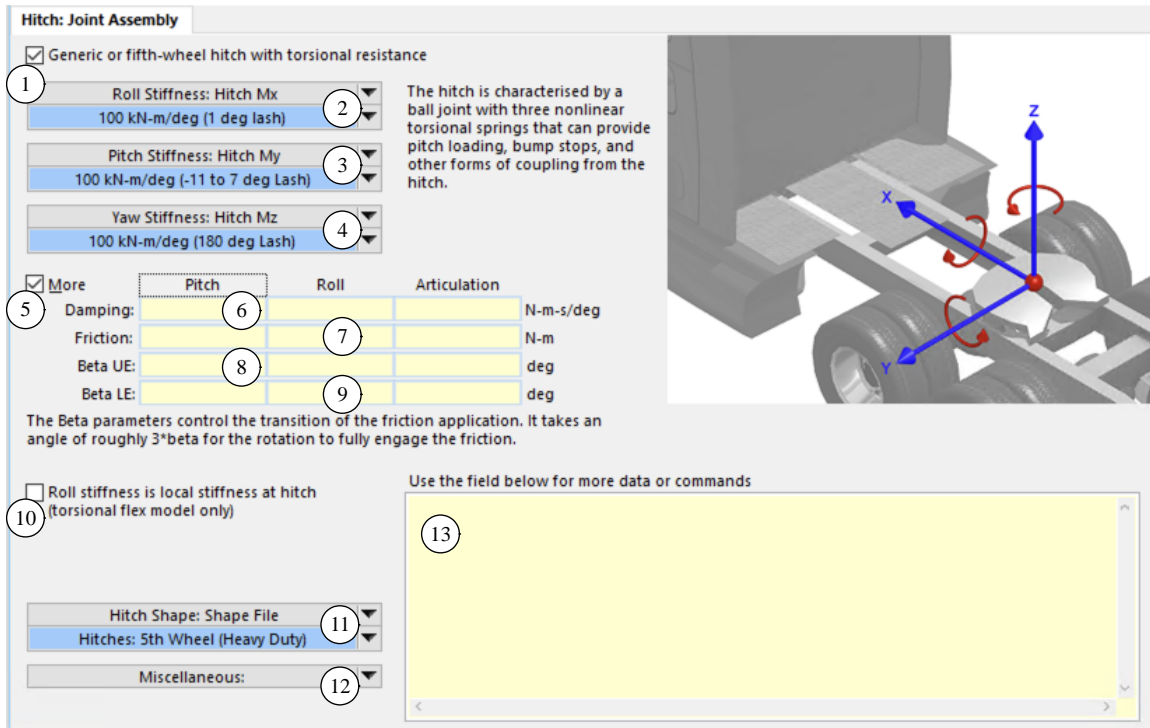
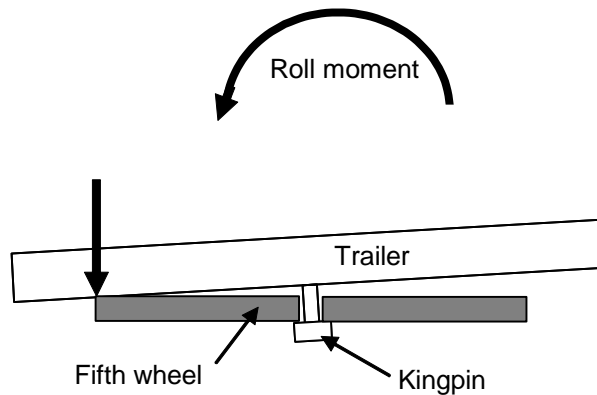
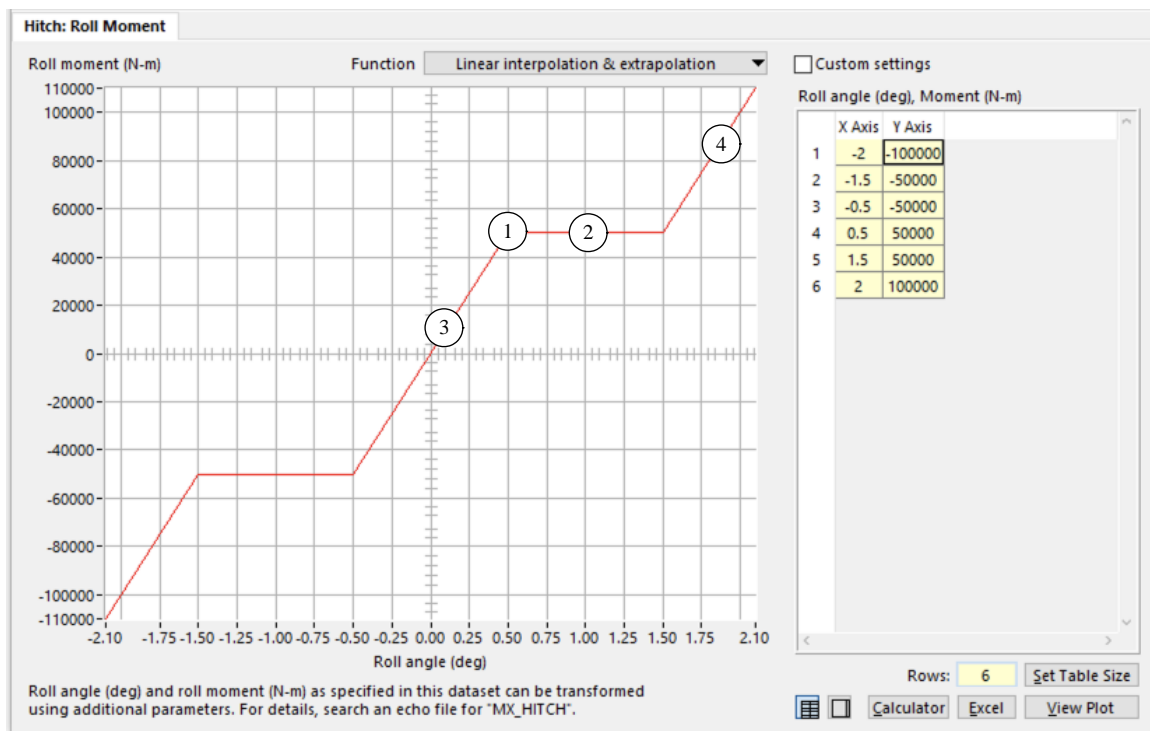
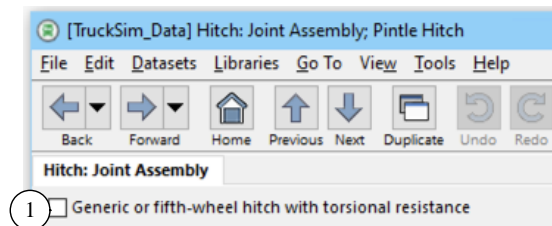

Figure 16. The Hitch Joint Assembly screen.
Figure 21. Tipping through lash.
Figure 22: A typical Roll Stiffness dataset for a fifth wheel.
Figure 23. Hitch screen with Generic/fifth-wheel button unchecked for pintle hitch.
2. The hitch roll deflection is modified to account for the local roll angle introduced by twist of the chassis (leading and trailing) at the location of the hitch. This option is enabled with a checkbox on the Hitch screens, as shown in Figure 16 (page 13) and Figure 17 (page 15).
Use this screen (Figure 16) to specify non-linear relationships between the resisting moments and angles of rotation directly using tables (e.g., Figure 22, page 17).
- ② Link to a Configurable Function dataset that defines a relationship between hitch roll moment and roll angle, such as the example shown later in Figure 22 (page 17). The root name for this function is `MX_HITCH`.
- ③ Link to a Configurable Function dataset that defines a relationship between hitch pitch moment and pitch angle. The root name for this function is `MY_HITCH`.
- ④ Link to a Configurable Function dataset that defines a relationship between hitch articulation moment and articulation angle. The root name for this function is `MZ_HITCH`.
- ⑤ **More** checkbox. Check to view more parameters: ⑥ - ⑨. This option is available only when the first checkbox ① is checked.
- ⑥ Torsional damping coefficients for each rotation axis (keywords = HITCH_DMP_X, HITCH_DMP_Y, HITCH_DMP_Z).
- ⑦ Torsional friction about each rotation axis (keywords = HITCH_FRIC_X, HITCH_FRIC_Y, HITCH_FRIC_Z).
- ⑧ Beta parameters for approaching the upper friction limits when the friction torque goes from negative to positive (keywords = BETA_UE_X, BETA_UE_Y, and BETA_UE_Z). These are approximately 1/3 the angle needed to travel through a torsional spring hysteresis (friction) loop when the rotation angle is increasing.
- ⑨ Beta parameters for approaching the lower friction limits when the friction torque goes from positive to negative (keywords = BETA_LE_X, BETA_LE_Y, and BETA_LE_Z). These are approximately 1/3 the angle needed to travel through a torsional spring hysteresis (friction) loop when the rotation angle is decreasing.
- ⑩ Checkbox to enable the alternate use of relative roll for use with models that have frame twist, as described earlier (page 8, Keyword = OPT_ROLL_HITCH). This option is used under the following conditions: (1) the first checkbox ① is checked, and (2) it applies for simulations with the frame twist feature enabled on the License Settings window (**Tools > License Settings**). The frame twist feature is available as an extra license option in CarSim and TruckSim).
As an alternative to describing the hitch's roll, pitch, and yaw stiffnesses directly via tables in the GUI, the hitch may instead be described with parameters used to automatically build the nonlinear tables for the three moments. The **Hitch: Parameters** screen (Figure 17) has all the controls shown on the **Hitch: Joint Assembly** screen, except for the three links to the hitch moment Configurable Functions (Figure 16, ②, ③, ④). These are replaced with parameters (⑭ - ⑰) used to build the tables automatically. For example, Figure 18 shows the three hitch moment tables written for the dataset shown in Figure 17.
When the roll moment generated by the lateral acceleration becomes large enough to shift the trailer's vertical load to the edge of the fifth wheel, the trailer can tip and contact the edge of the fifth-wheel's mating surface (Figure 21). Under these conditions the trailer is free to move through the lash in the fifth-wheel coupling, equivalent to about 1 or 2 degrees. This behavior can be captured in CarSim and TruckSim using the Configurable Function for **Hitch: Roll Moment** (Keyword = MX_HITCH, Figure 22).
1. The hitch towing the trailer (either the **Hitch: Joint Assembly** screen or the **Hitch: Parameters** screen has a checkbox **Generic or fifth-wheel hitch with torsional resistance** (1) (Figure 16, page 13, or Figure 17, page 15). This box must be *unchecked* (1) (Figure 23).
Note	When the hinged tow bar option ① is set, the dataset for this screen will apply the command <code>OPT_HITCH_TYPE = 3</code> . An error is generated by the VS Math Model if the hitch type was already set to 1 (the box in Figure 23 was checked). To use the hinged tow bar option on the sprung mass screen, the hitch type must be set to either 2 (in which case the value will be changed to 3) or 3 (in which case the intended setting has already been made).
Note	When the articulation system option is set (1), the dataset for this screen will apply the command <code>OPT_HITCH_TYPE = 4</code> . An error is generated by the VS Math Model if the hitch type was set to 1 (the checkbox in Figure 23 is unchecked). To use the articulation system option on the sprung mass screen, the hitch type must be set to either 1 (in which case the value will be changed to 4) or 4 (in which case the intended setting has already been made).